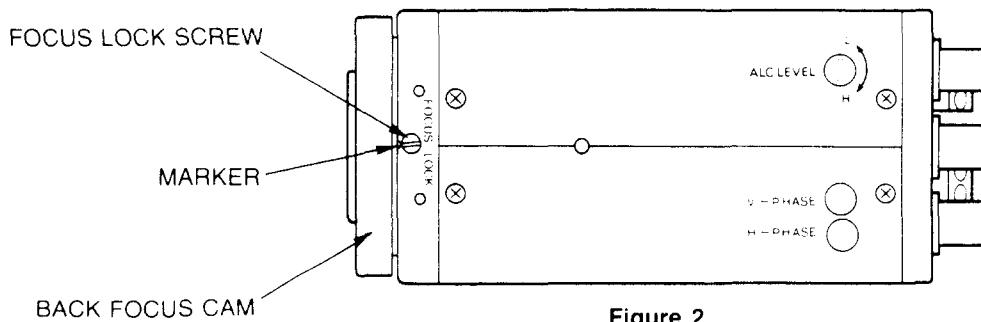

Figure 2
1. Loosen FOCUS LOCK screw on the top plate as shown in Figure 2.